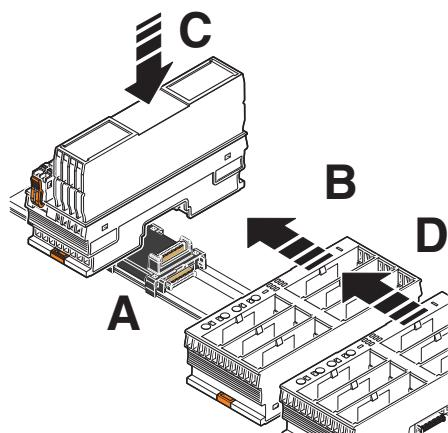

Figure 11-10 Connecting the backplane with the bus base module
- Place the backplane on the DIN rail (Figure 11-10, A).
- First backplane: push the connection of the backplane into the connection of the previous bus base module (Figure 11-10, B).
- Place the controller or bus coupler onto the bus base module (Figure 11-10, C). See Section “Bus base modules, controllers, and bus couplers” on page 61.
- Subsequent backplanes: push the backplanes together (Figure 11-10, D).